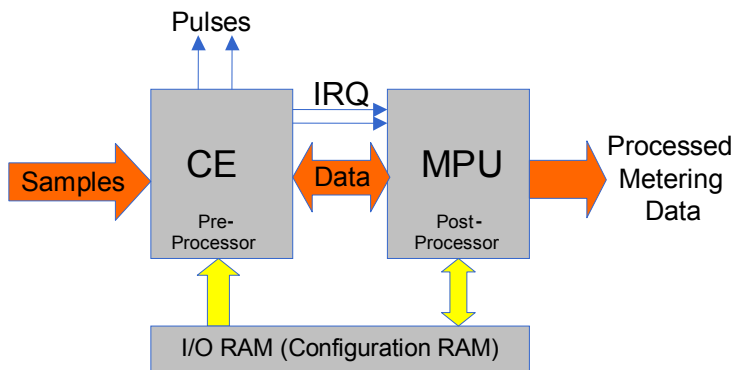

Figure 29: MPU/CE Data Flow
The data flow between the Compute Engine (CE) and the MPU is shown in Figure 29. In a typical application, the 32-bit CE sequentially processes the samples from the voltage inputs on pins IA, VA, IB, and VB, performing calculations to measure active power (Wh), reactive power (VARh), A^2h , and V^2h for four-quadrant metering. These measurements are then accessed by the MPU, processed further and output using the peripheral devices available to the MPU. Figure 29 illustrates the CE/MPU data flow.